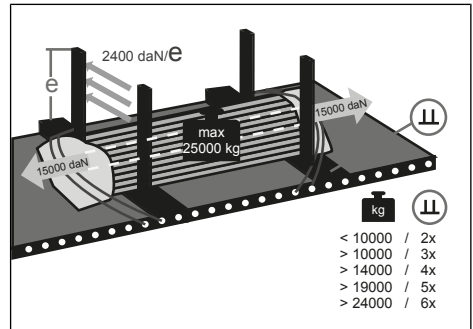

Fig. 8-21: Multi Fix system
- ▶ Position the steel pipes on the footing beam between the vertical support beams (see "Fig. 8-21: Multi Fix system", pg. 155).
- ▶ Install the safety net at the ends of the steel pipe (see "Fig. 8-21: Multi Fix system", pg. 155).